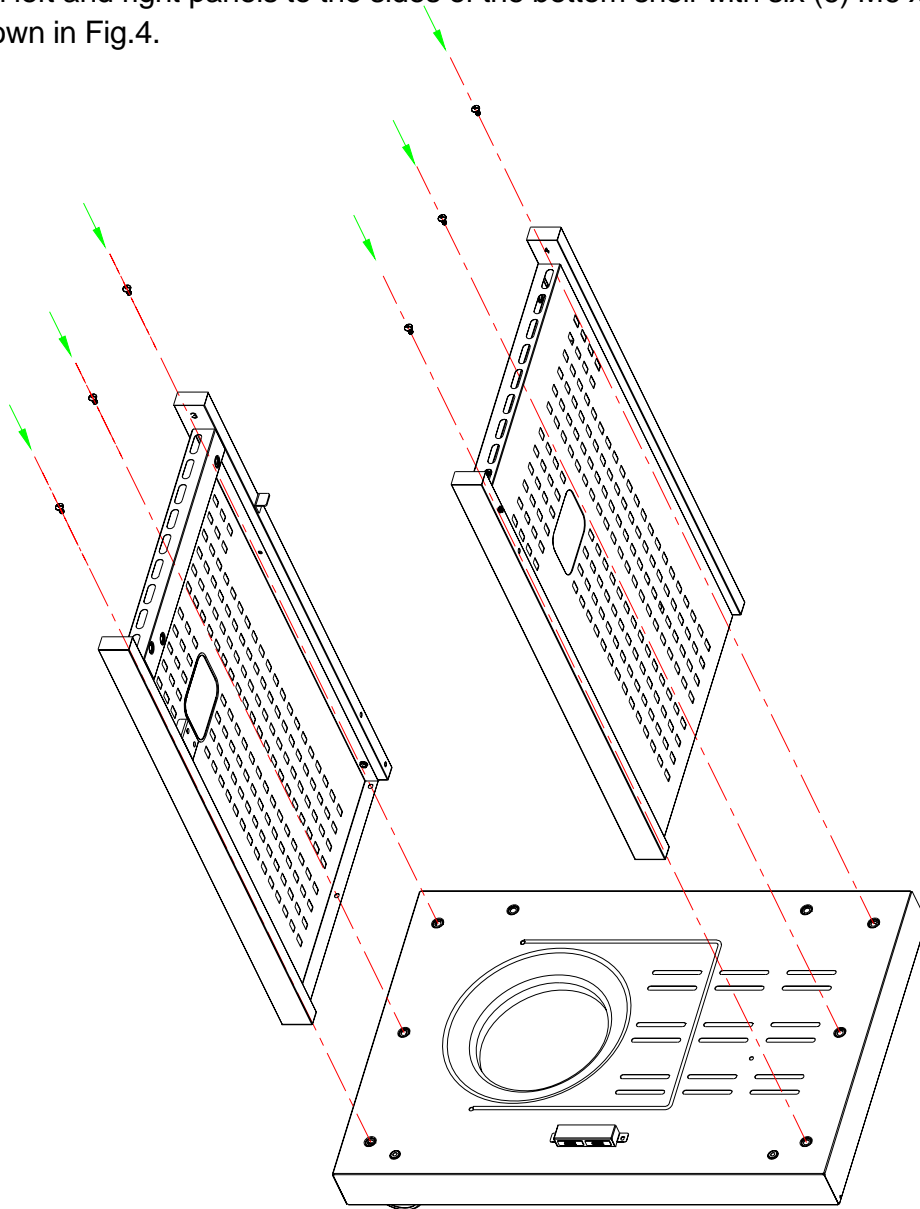

Fig.4
1. Align side panel leg holes with holes on each side of the bottom shelf as shown in Fig.4.
2. Attach left and right panels to the sides of the bottom shelf with six (6) M6 x 13 screws as shown in Fig.4.